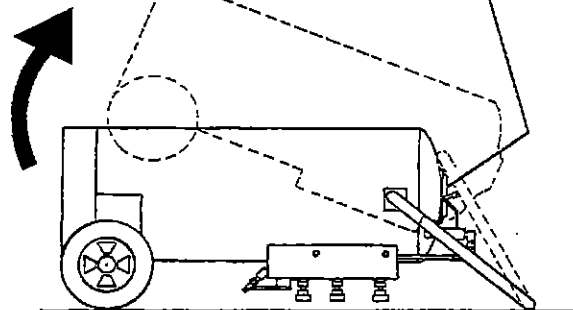

Figure 5
4. The product in the tank can be dumped by first relieving the tank pressure, opening the tank hatch and laying the tank down on its handle. Grasp and lift up on the bottom to drain product out of the tank hatch, refer to Figure 5.